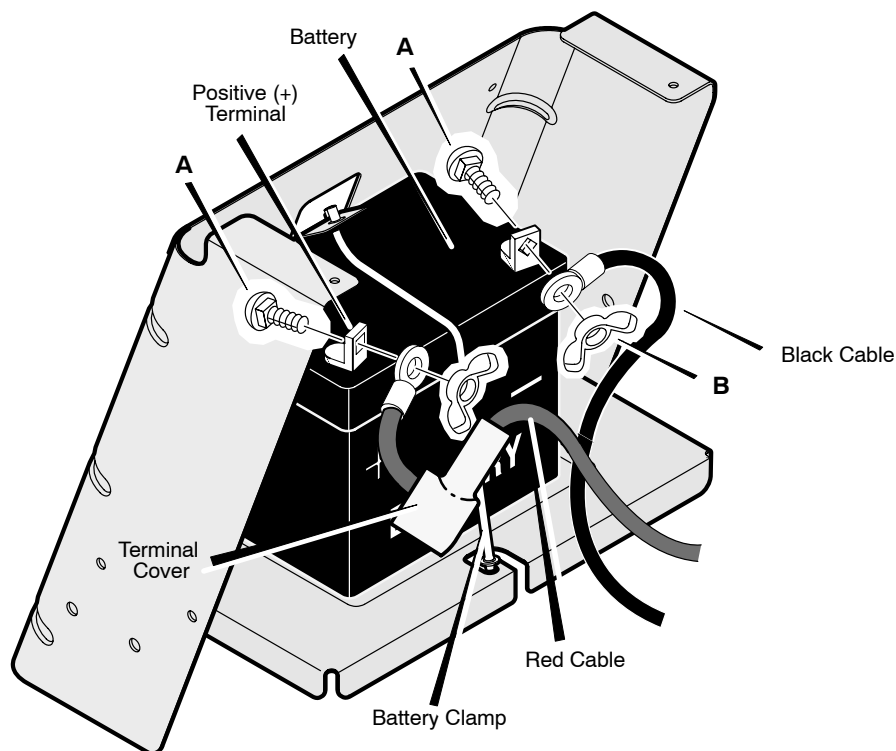

Figure 1
2. Check the top and the side of the battery for the location of the **battery date** (Figure 1).
2. Fasten the **red cable** and **terminal cover** to the **positive (+) terminal** with the fasteners as shown (Figure 1).